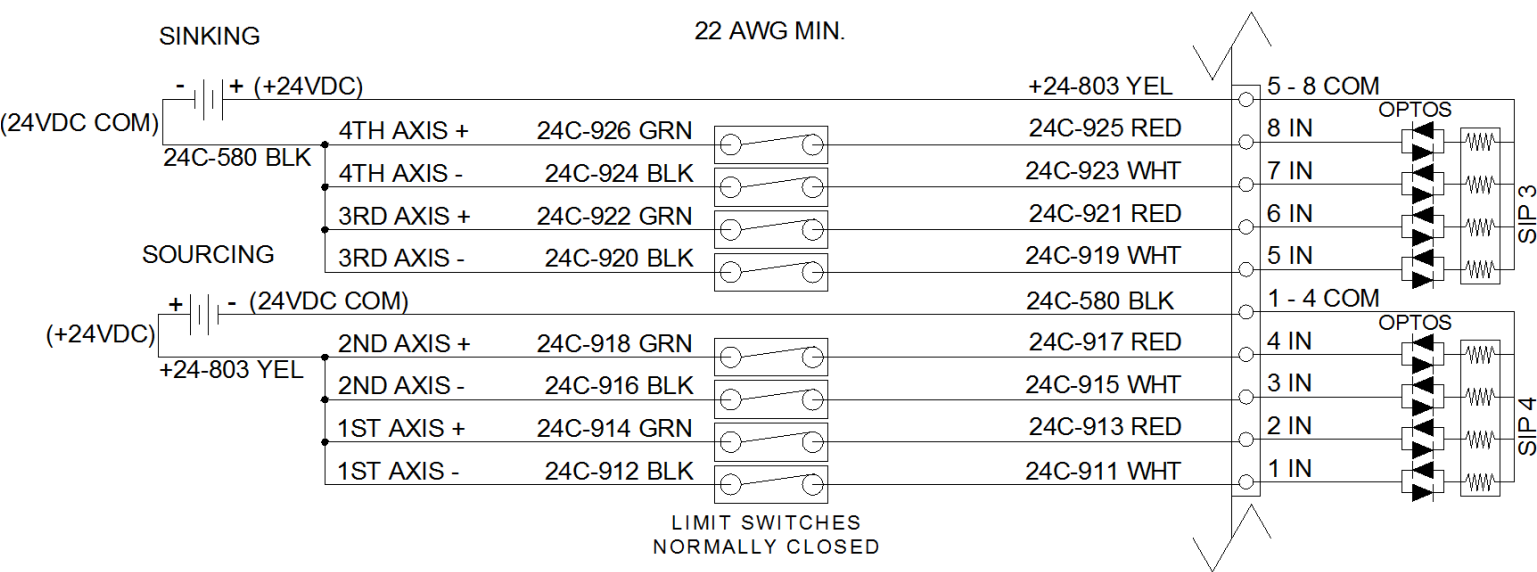

Figure 5.2.3
- Sourcing:** Connecting the inputs to power is sourcing. The negative lead of the power supply must be connected to common. This is demonstrated on inputs 13-16 in Figure 5.2.3.
- Sinking:** Connecting the inputs to ground is sinking. The positive lead of the power supply must be connected to common. This is demonstrated on inputs 9-12 in Figure 5.2.3.